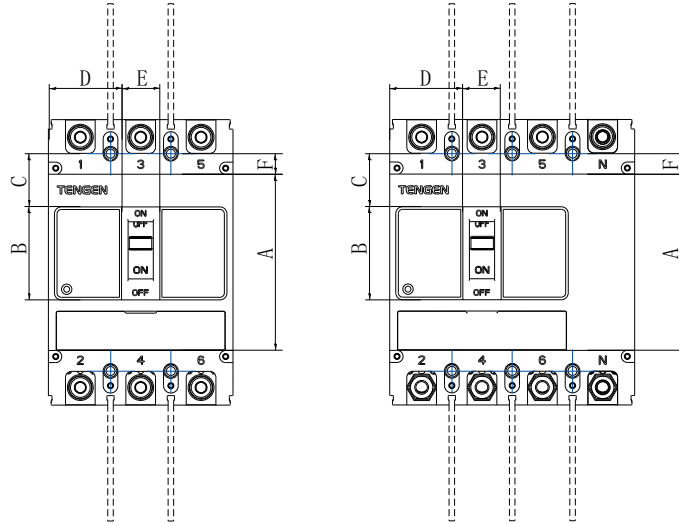

Fig. 2 Hole size on the handle and the hole size on the panel
9.2 The hole size on the handle and the hole size on the panel see Table 31 and Fig. 2